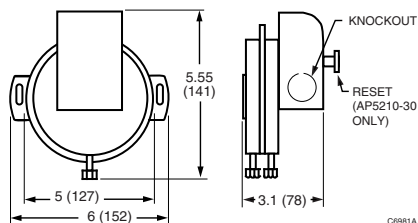

Fig. 1. Airflow Differential Pressure Switch, approximate dimensions in in. (mm).
**Dimensions:** 5-1/2 in. (144 mm) high, 6 in. (152 mm) wide, 3-1/8 in. (78 mm) deep. See Fig. 1.